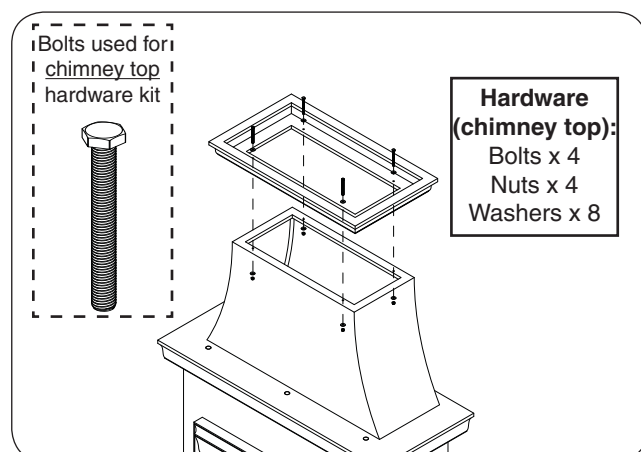

Fig. 18-2 Assemble chimney top (if applicable)
2. Place the chimney top piece (if applicable) on top of the chimney piece. Carefully align the pilot holes, and insert the hardware (chimney top hardware kits) in the order shown in Fig. 18-2. Hand tighten, then use two  $\frac{1}{2}$ " open end wrenches (or equivalent) to fasten.